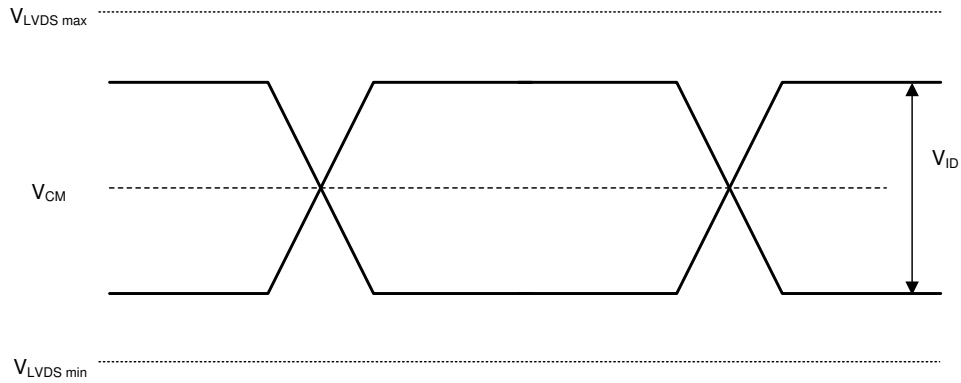

Figure 6-5. LVDS Waveform Parameters
- (1) All voltages are referenced to common ground V_{SS}. V_{DD}, V_{DDI}, and V_{CC2} power supplies are all required for proper DMD operation. V_{SS} must also be connected.
- (2) V_{CC2} supply transients must fall within specified max voltages.
- (3) To prevent excess current, the supply voltage delta $|V_{DDI} - V_{DD}|$ must be less than the specified limit. See the DMD Power Supply Requirements.
- (4) PWRDNZ input pin resets the SCP and disables the LVDS receivers. The PWRDNZ input pin overrides the SCPENZ input pin and tristates the SCPDO output pin.
- (5) See LVDS clock timing requirements in Timing Requirements.
- (6) See Figure 6-5 for the LVDS waveform requirements.
- (7) Simultaneous exposure of the DMD to the maximum Recommend Operating Conditions for temperature and UV illumination reduces device lifetime.